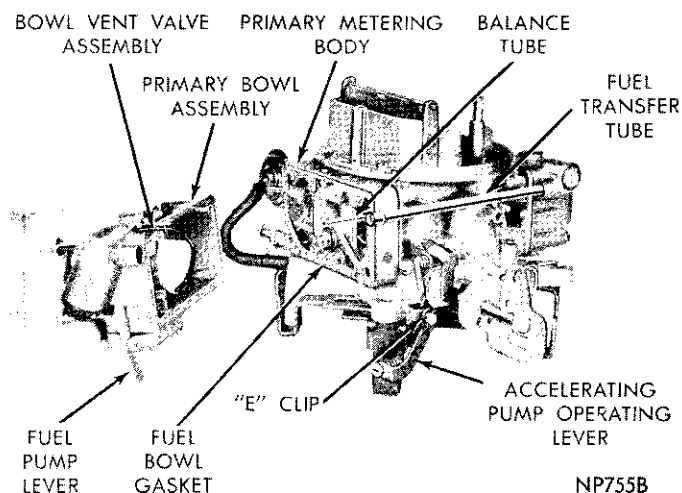

Fig. 2—Removing or Installing Primary Fuel Bowl
(2) Remove primary fuel bowl assembly by sliding straight off balance tube (Fig. 2).